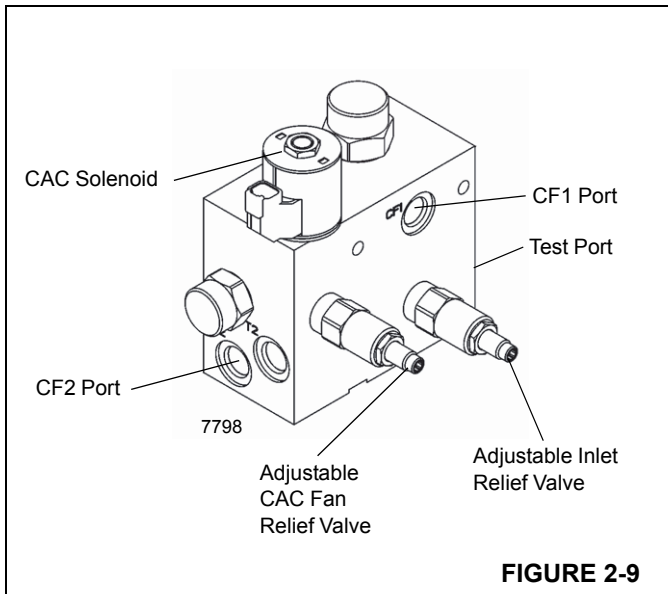

FIGURE 2-9
1. With engine off, disconnect hose at port "CF1" at the brake charge/CAC fan motor supply valve Figure 2-9; cap and plug all openings.
1. Install pressure check diagnostic quick disconnect (Parker PD240) with gauge onto Test Port, Figure 2-9.